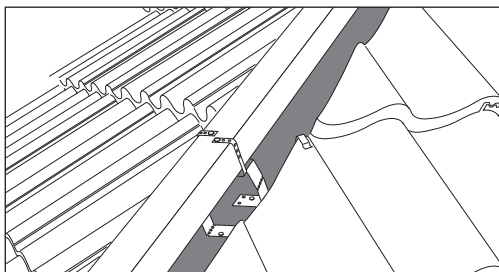

Fig 7 Fixing hip batten
- 6 Secure either one or two thicknesses of 50mm x 25mm tiling batten to the top of Batten Brackets, parallel to hip rafter, by folding over Batten Bracket arms and nailing through perforations into the battens using nails provided (Fig 7).